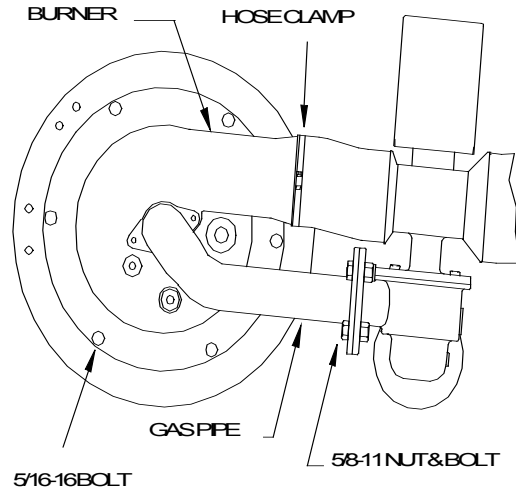

Figure 7.3
5. Disconnect the combustion air hose from the burner by loosening the hose clamp. (See Fig. 7.3)
6. Remove the four (4) 5/8-11 nuts and bolts from the gas outlet side of the Air/Fuel Valve. (See Fig 7.3).
7. Remove the six (6) 5/16-16 bolts from the burner flange. (See Fig 7.3)